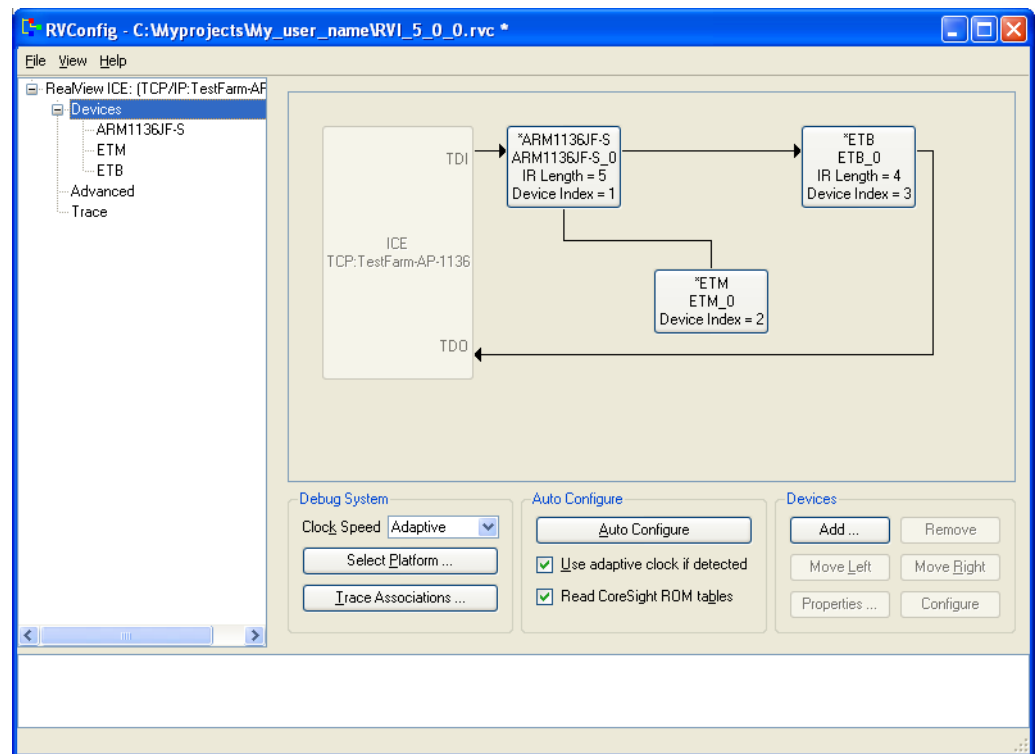

Figure B-1 RVConfig utility
6. Select **Configure...** from the context menu to display the RVConfig utility. Figure B-1 shows an example: